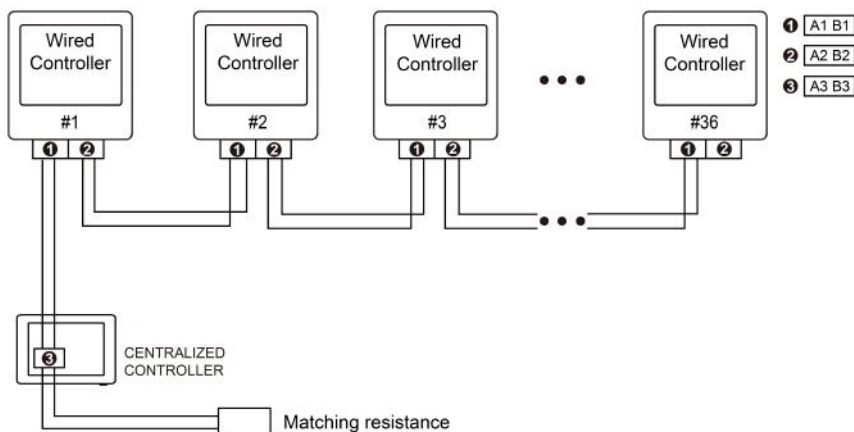

Fig.3.10 Centralized Controller Connected with Wired Controller
- (1) The connection sketch map of control system is shown by the fig. 3.10.